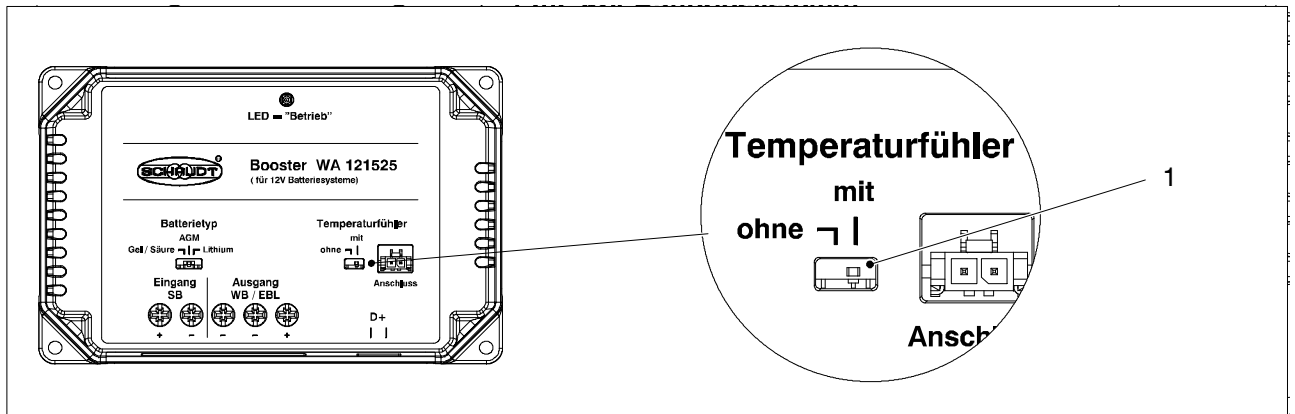

Fig. 7 Temperature sensor: Connection and setting
- Plug the connector into the booster (Figure 7, Pos. 1).
- Adjust the sliding switch on the booster (Figure 7, Pos. 2).
When the temperature sensor is connected: Sensor cable break.	Unplug the temperature sensor connector and move the switch (Figure 7, Pos. 2) into Position "without"; then contact Customer service.